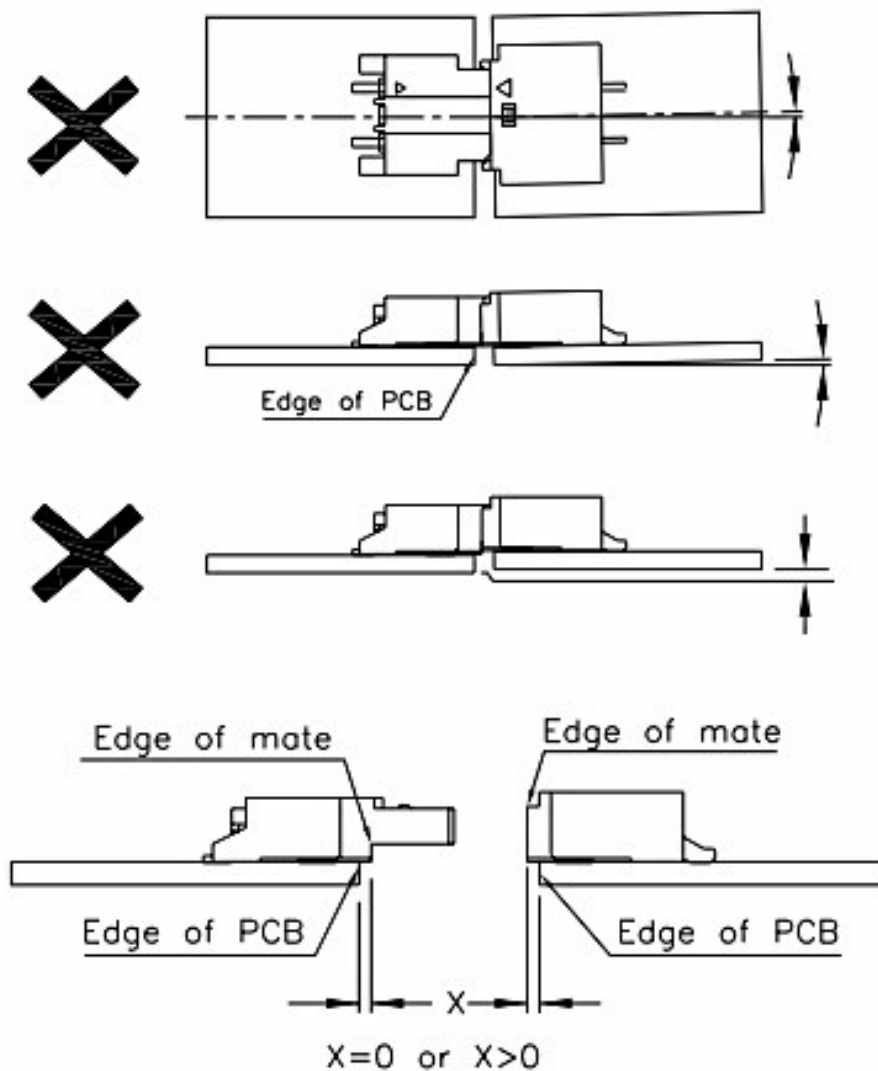

Fig. 3-4-2.
- Please make sure the layout of PCB are straight with each other, do not layout angle or bump. It cause the transformation and housing etc. (Fig. 3-4-2)